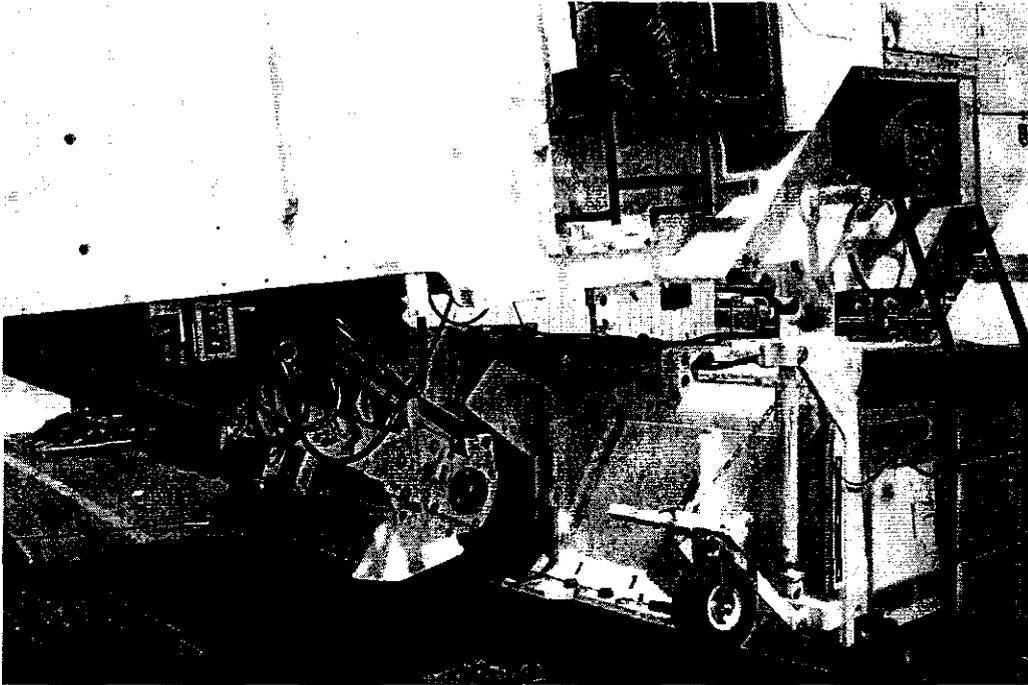

FIGURE 64
1. Some type of vehicle will have to be used to pull the cutter housing from under the machine. Slowly and carefully, (being aware of personnel in the area) pull the cutter housing from the belt guard side of the machine. The machine will have to be raised and lowered during the process (to clear the primary conveyor and the moldboards) at different points in the path of the housing as it is pulled from under the machine (figure 64).